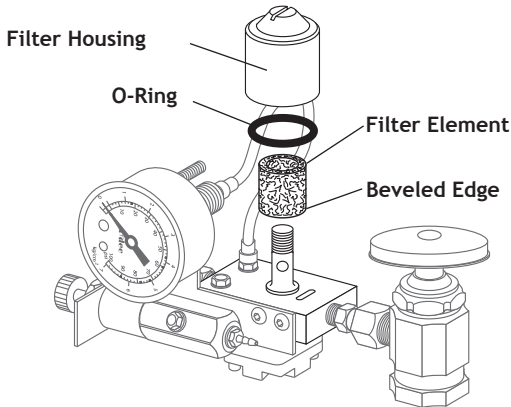

Figure 7. Air or Water Filter Replacement
1. Be sure that the manual shutoff valves are fully open (counterclockwise). Turn the system on and check the pressure gauges in the floor box (see Figures 7 and 8). Air pressure should be 70–80 psi while water pressure should be 35–40 psi.
To check for a clogged air filter, flip the master on-off toggle to the ON position and remove the floor box cover. While watching the air pressure gauge in the floor box (see Figures 7 and 8), press the syringe air button. If the air pressure indicated by the gauge drops by more than 15 psi, the filter element is clogged and must be replaced.